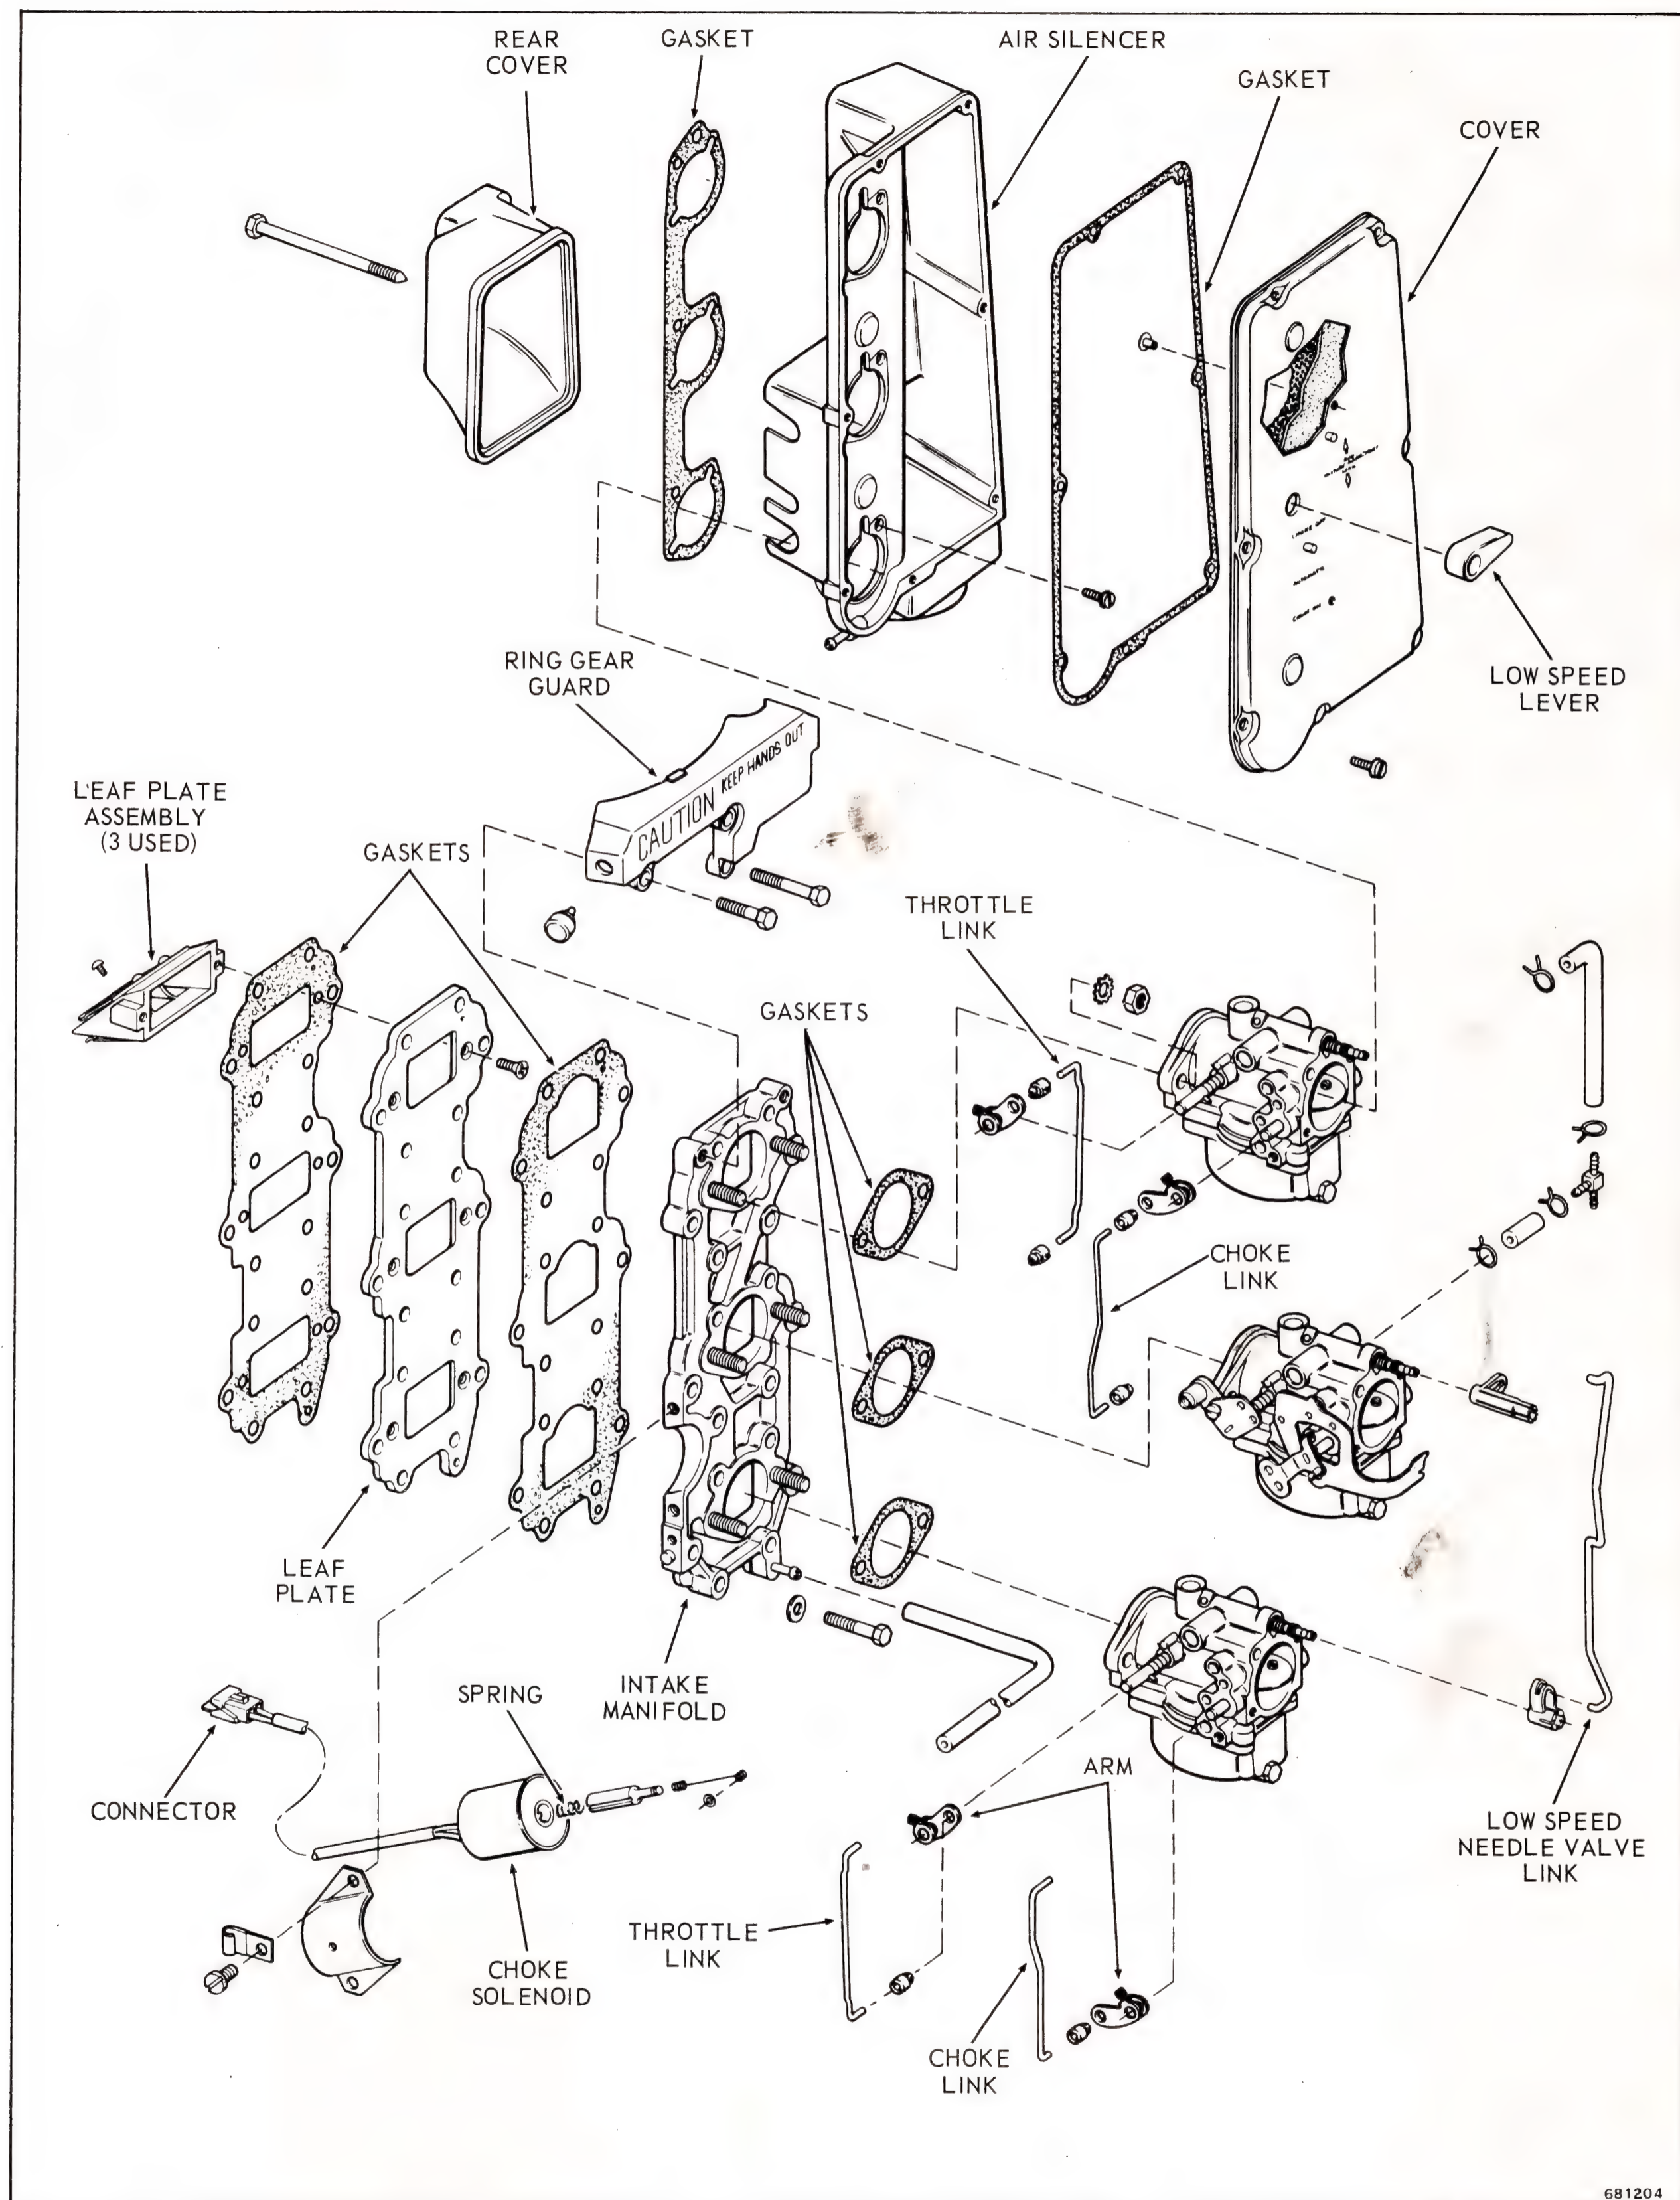

Figure 3-6. Air Silencer, Carburetors, Intake Manifold, and Leaf Valves
- h. Remove carburetor nuts, lockwashers and carburetors. Discard gaskets. See Figure 3-6.